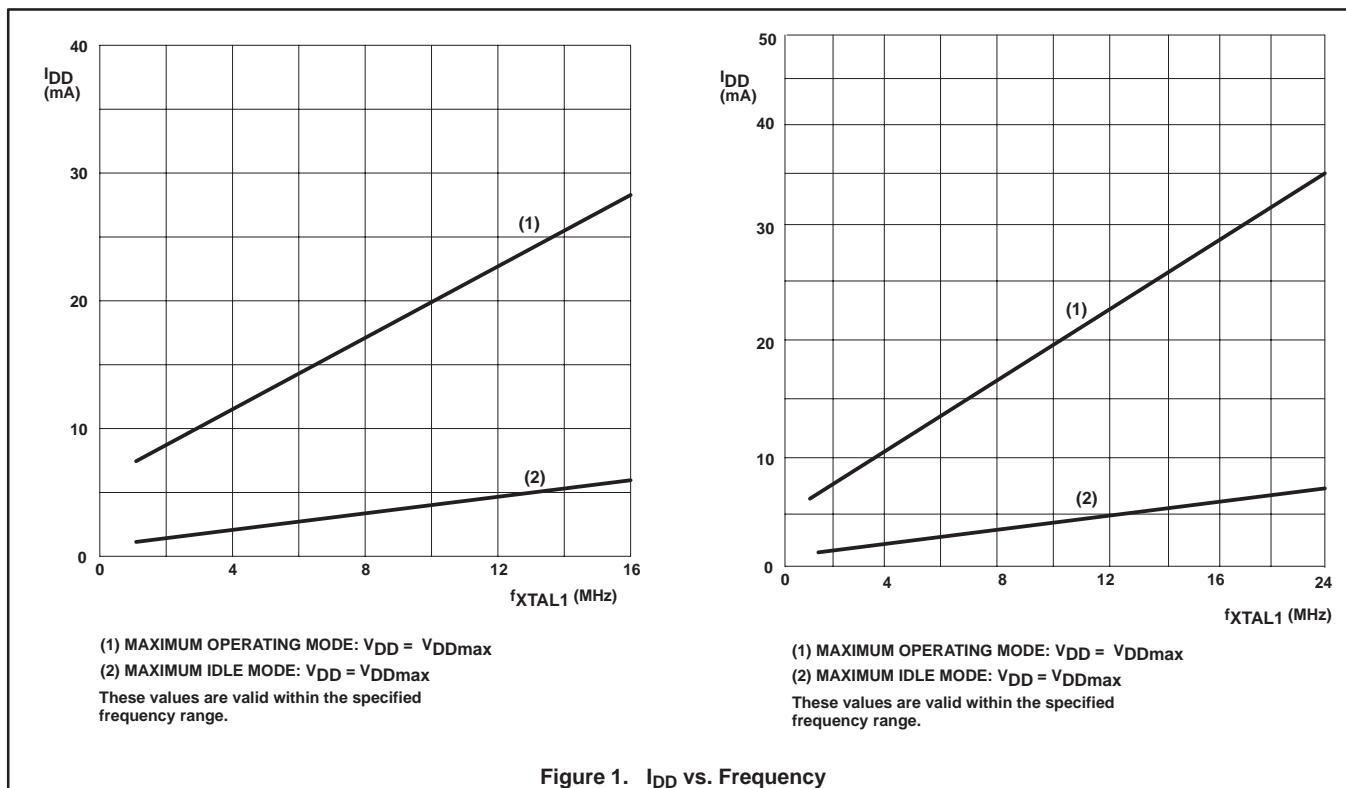

Figure 1. I_{DD} vs. Frequency
11. I_{DDMAX} for other frequencies can be derived from Figure 1, where FREQ is the external oscillator frequency in MHz. I_{DDMAX} is given in mA.